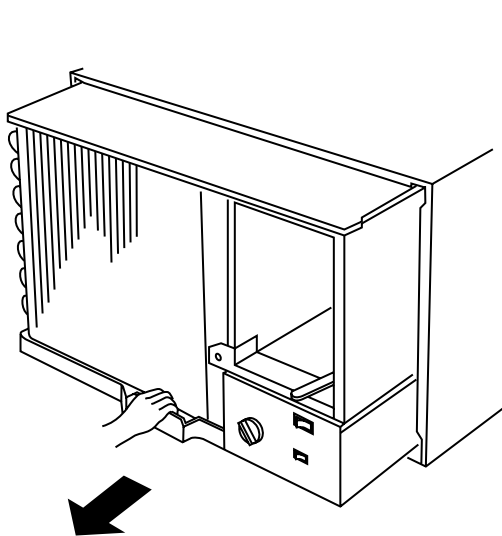

Fig. 10
- (4) While holding top of the cabinet with one hand, grasp the handle with another hand and pull the unit toward you. (Fig. 10)